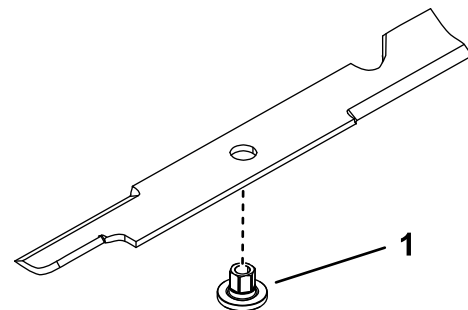

Figure 93
1. Install the bushing through the blade with the bushing flange on the bottom (grass) side of the blade (Figure 93).